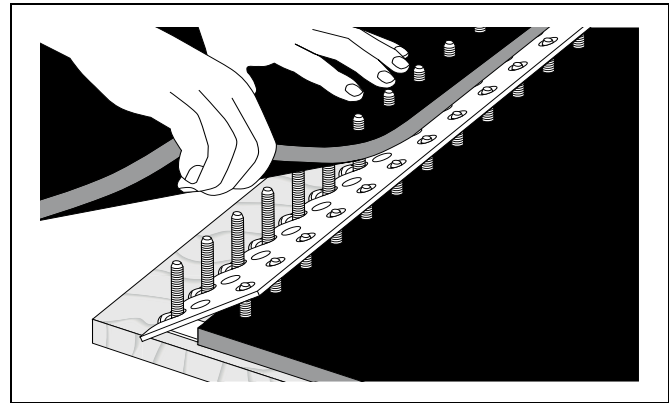

Figure 4H
5. Using the notches in the templet to align the opposite row of bolts, place the end of the belt over the bolts. Press belt onto bolts with hands. Remove templet. Continue to press belt until it is in place. *(See Figure 4H.)*